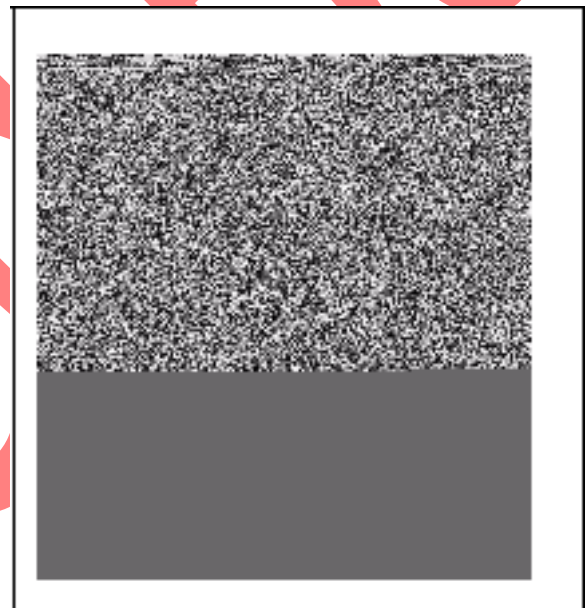

Fig. 137
Remove the idle mixture screw with spring (D) and the idle speed screw with spring ([E] Fig. 137).